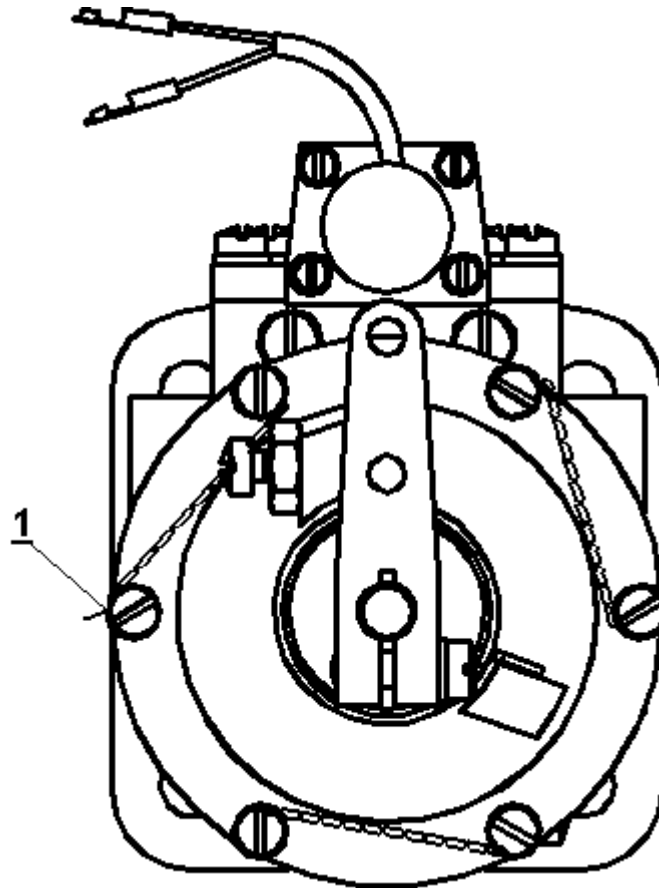

Fig. 8 Positioning of governor P-9( )(-) control head
It is possible to position the governor head / control lever to any position, see fig. 8.
**7.1.1** Remove one safety wires from six screws position 1, fig. 8.
**7.1.4** Tighten the six screws, secure with lock wire AMS5687 or equivalent, according to fig. 8.